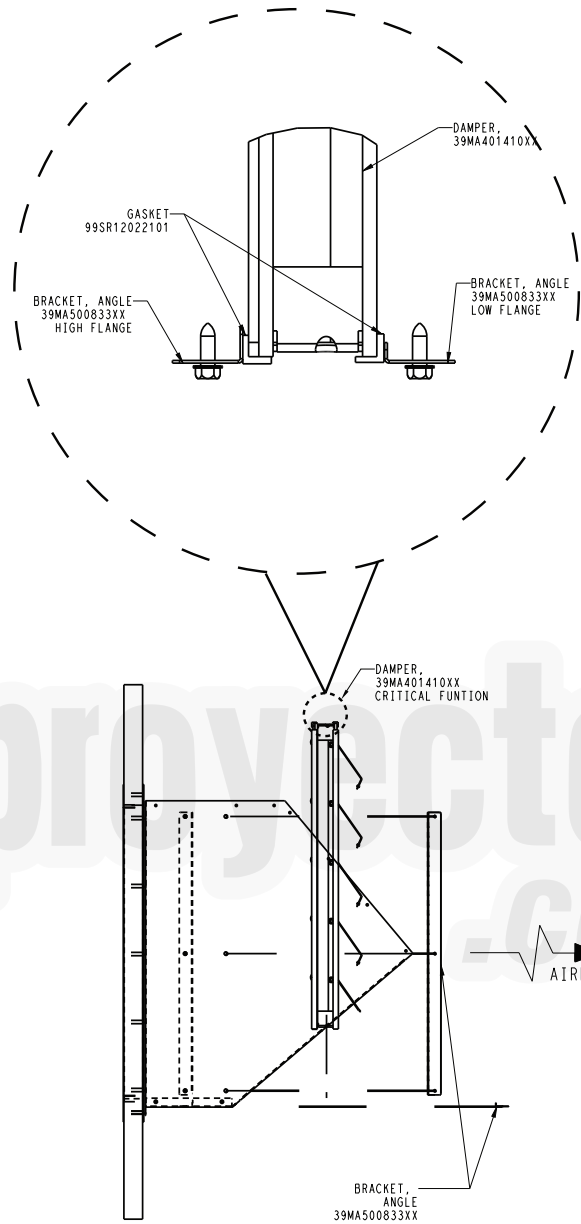

Fig. 74 — Installing the Damper
- Install damper (if ordered) as shown in the Fig. 74. Orient damper blades to open out (in the direction of exhaust air.) Attach the 3 outer angle brackets to the damper to the exhaust hood using the 1/4 in.-14 x 5/8 in. long sheet metal screws (without neoprene washer.) After installing the 3 outer brackets, make sure the damper moves freely.